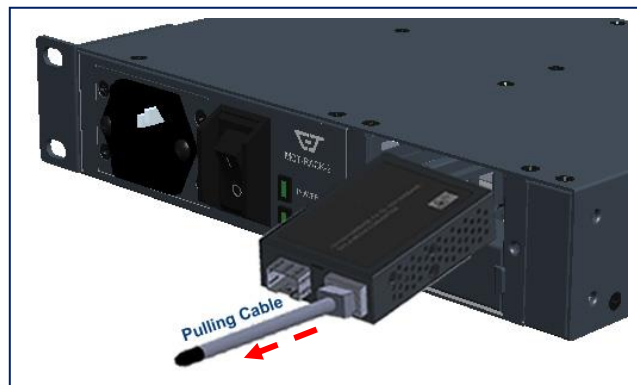

Figure 2-5
- 7 To pull out the module, you may connect the supplied pulling cable with the RJ-45 connector of the slide-in media converter module to pull it out more easily if needed. (See Fig. 2-5.)